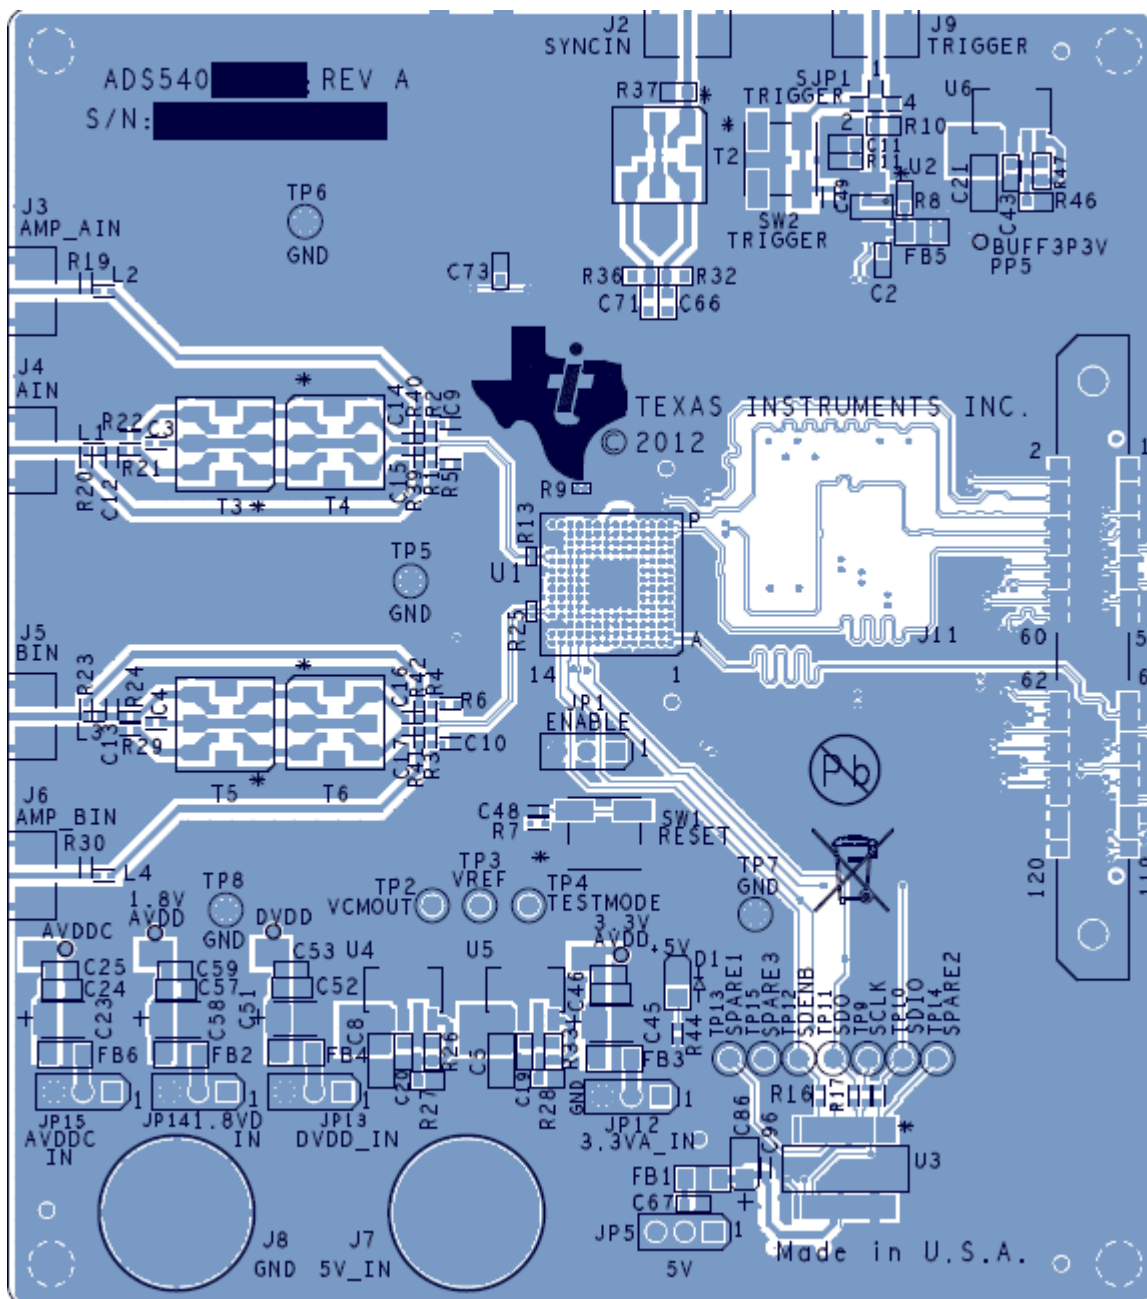

图 65. Top Layer
The Device EVM layout can be used as a reference layout to obtain the best performance. A layout diagram of the EVM top layer is provided in Figure 65. Some important points to remember during laying out the board are:
- Analog input is located on opposite sides of the device pinout to ensure minimum crosstalk on the package level. To minimize crosstalk on-board, the analog input should exit the pinout in opposite directions, as shown in the reference layout of Figure 65 as much as possible.